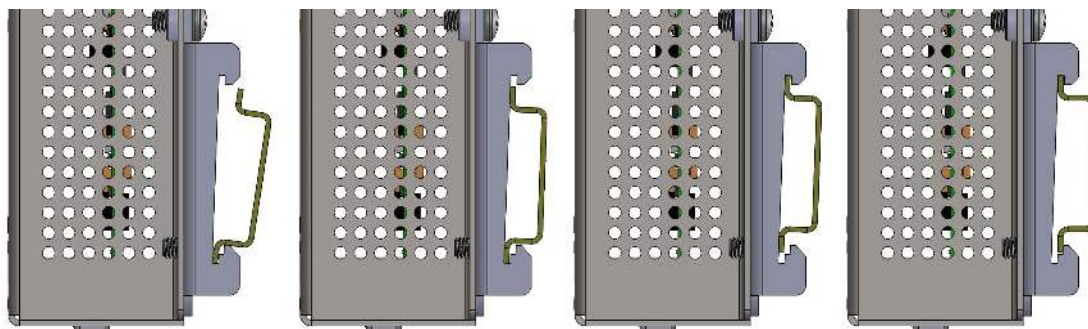

Figure 10. Mounting Cell Interface on DIN-rail
7. Mount the Cell Interface assembly onto the DIN rail as seen in Figure 10.